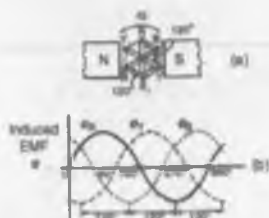

Figure 20.2
A **three-phase supply** is generated when three coils are placed 120° apart and the whole rotated in a uniform magnetic field as shown in Fig. 20.2(a). The
result is three independent supplies of equal voltages which are each displaced by 120° from each other as shown in Fig. 20.2(b).
- (i) The convention adopted to identify each of the phase voltages is: R-red, Y-yellow, and B-blue, as shown in Fig. 20.2
If the three-phase windings shown in Fig. 20.2 are kept independent then six wires are needed to connect a supply source (such as a generator) to a load (such as motor). To reduce the number of wires it is usual to interconnect the three phases. There are two ways in which this can be done, these being: